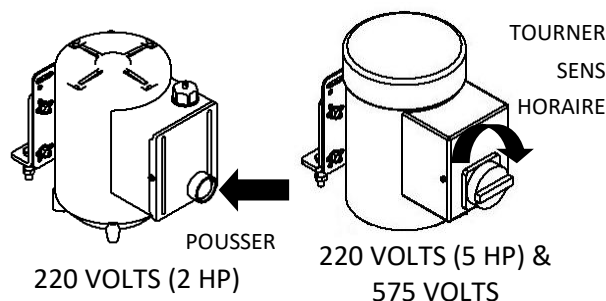

FIGURE 17 : ACTIVATION DE L'UNITÉ HYDRAULIQUE
5. ACTIONNER L'UNITÉ HYDRAULIQUE POUR SOULEVER LE VÉHICULE TYPE D'ENVIRON 1" PAR RAPPORT AU SOL. VOIR **FIGURE 17**.